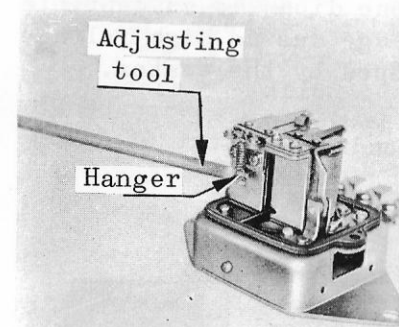

Fig. 10-19
1) Check and adjust the gap with reference to subparagraph (1)-1) and 2).
3) If the armature attracting voltage is maladjusted, readjust it by adjusting the tension of the coil spring as illustrated in Fig. 10-19.